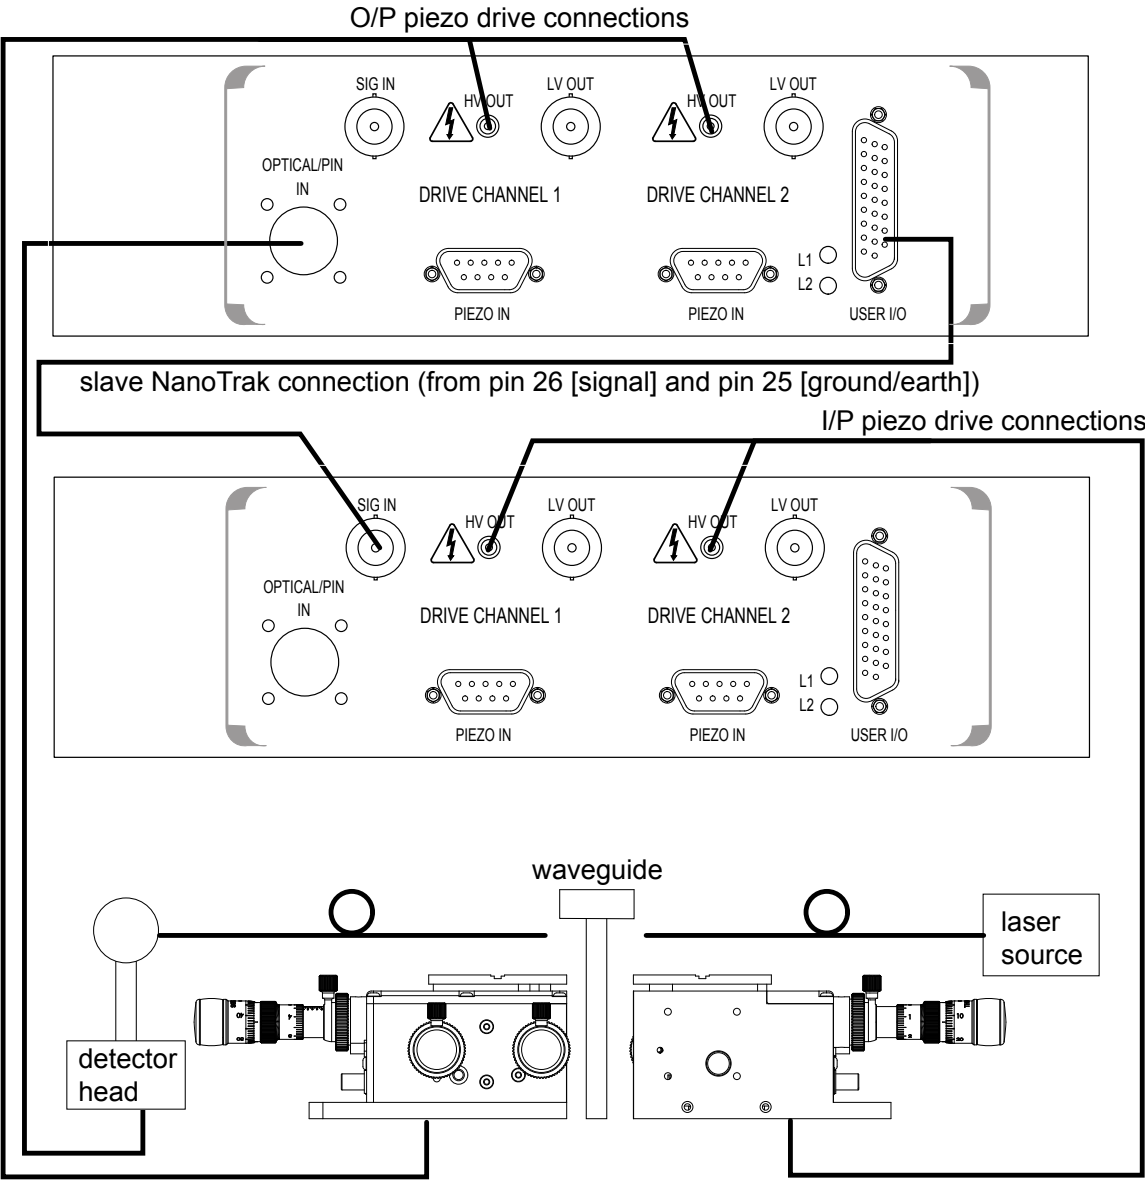

Fig. 4.10 Dual NanoTrak connections
The NanoTrak scanning process uses a single frequency (and a highly selective discriminator similar to a radio receiver) and it is possible to use more than one NanoTrak controller in a single optical path (and with a single detector). For example, with two control units set to different scanning frequencies (e.g. 30 Hz and 50 Hz) it is possible to couple fibers both into (master NanoTrak) and out of (slave NanoTrak) an integrated optical device such as a waveguide – see Fig. 4.10. The scan frequency and input source can be set either via the application software (see *APTServer Helpfile*) or directly via the Settings panel – see Section 4.5.2.
- 1) Make connections as shown in Fig. 4.10. - see Section 5.2.2. for USER I/O pinout details.
If using the internal power meter, the detector output is connected to the OPTICAL/PIN connector on the master unit and the signal to the slave NanoTrak must be routed from the master USER I/O connector to the slave SIG IN (see Fig. 4.10). If using an external power meter, a T-splitter must be used on the SIG OUT connector of the master NanoTrak.